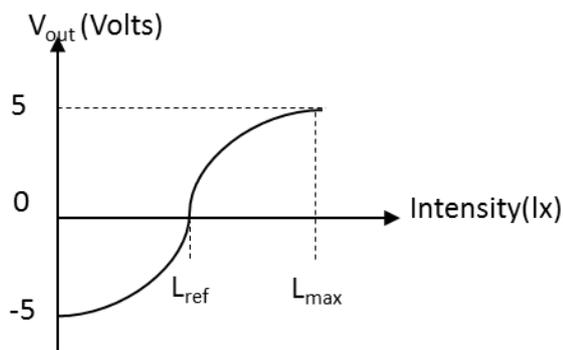

Fig. 3: Output vs Light Intensity graph of the light sensor
- 1) Construct the circuit given in Figure 3. Use  $R=1\text{ k}\Omega$  and  $C=1\text{ }\mu\text{F}$ . Connect signal generator to input of the circuit you constructed and apply a square wave with  $5 V_{pp}$  magnitude, 2.5 V offset and 100 Hz frequency. Observe  $V_{out}$  and  $V_{in}$  indicating all the voltage levels and time intervals. Measure the pulse width of output signal. Moreover observe the voltage waveform on the resistor and comment on it.